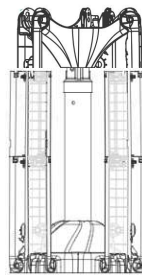

Figure 1a
- a) Start with the Aqua-Tower in the collapsed, storage position (Figure 1a)